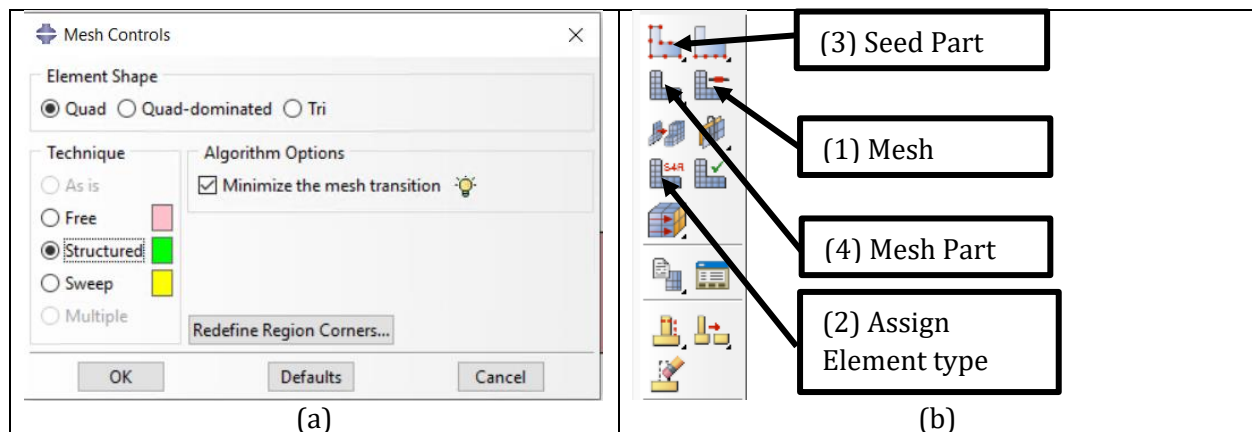

Figure 2-22 – (a) The Mesh Control dialog box and (b) the different tools for meshing a part in this workshop.
2. From the tools on the left ribbon, choose the **Mesh Controls**. See (1) in Figure 2-22(b).
1. From the tools in the left ribbon, choose the **Assign Element type**. See (2) in Figure 2-22(b).
1. From the tools in the left ribbon, choose the **Seed Part**. See (3) in Figure 2-22(b).
4. From the tools in the left ribbon, choose the **Mesh Part**. See (4) in Figure 2-22(b).